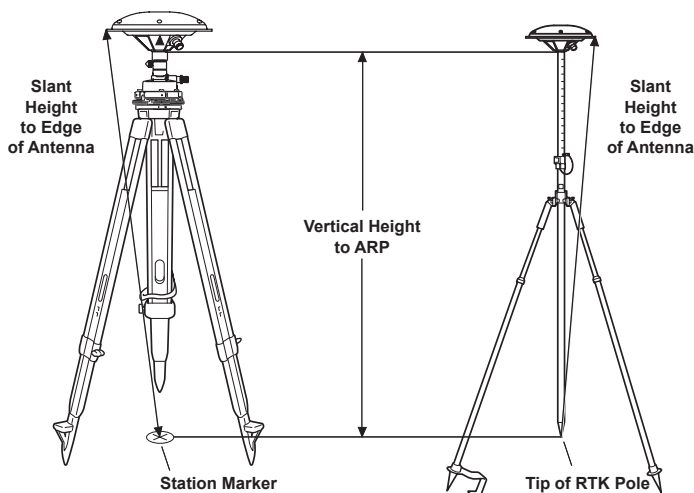

Figure 2-20. Measure Antenna Height
- For the reference station antenna, measure the vertical height between the observation point marker and the antenna reference point (ARP) or the slant height between the observation point marker and the antenna height measuring position (Figure 2-20).